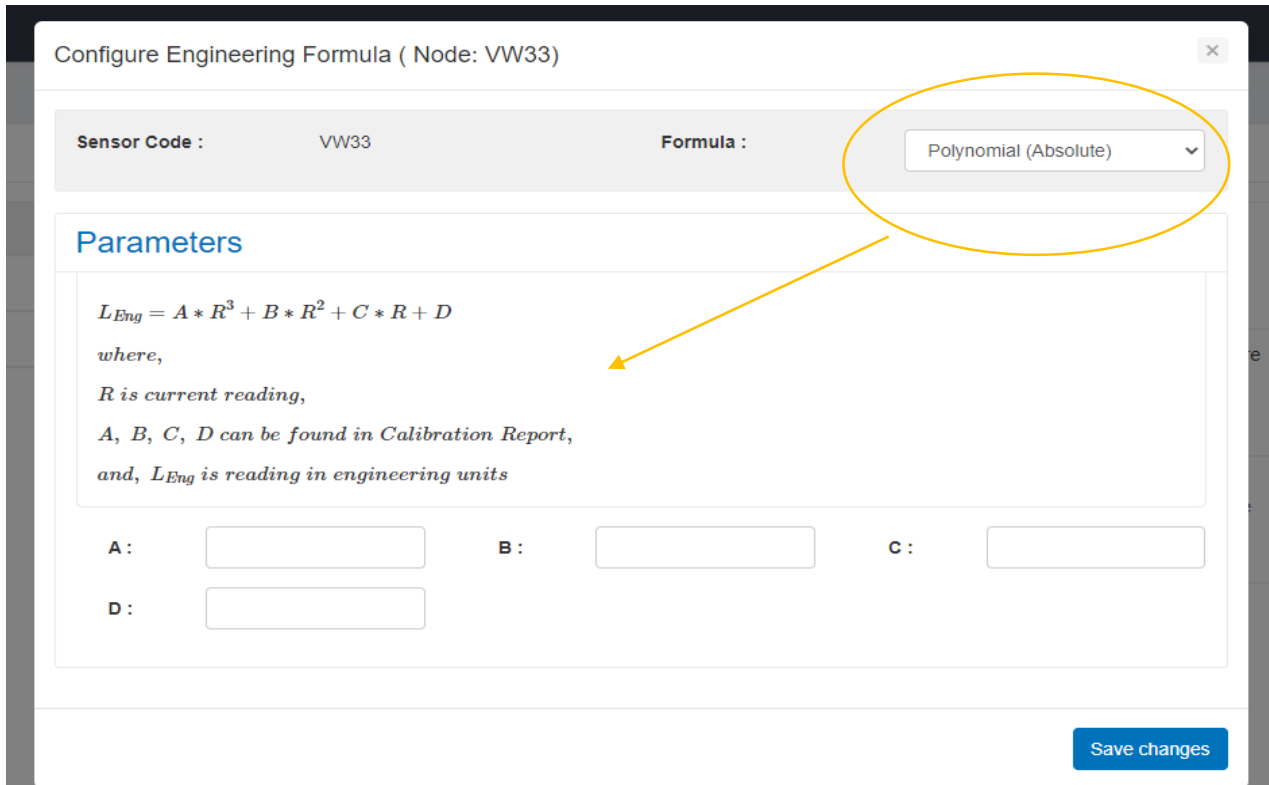

Figure 3-32
- 7. Under 'Parameters' section, the related formula will be displayed as shown in figure 3-32. Fill in the **A, B, C, D** coefficients from the respective test/calibration certificate provided for the sensor. Click on 'Save Changes' button as shown in figure below.